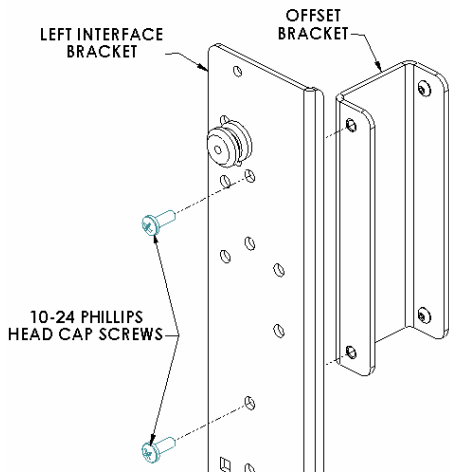
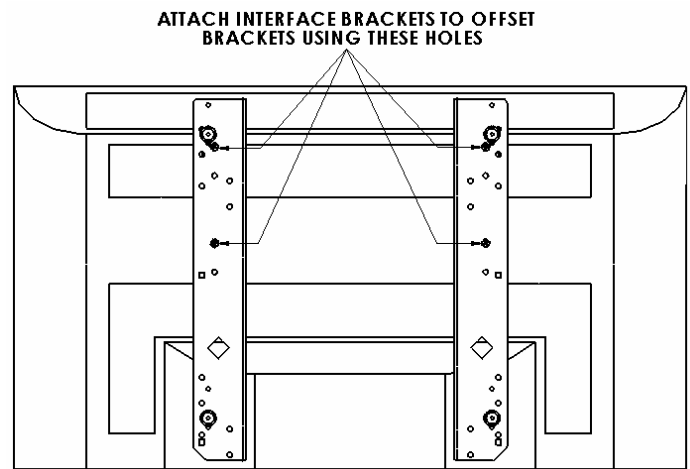

Figure 6
Figure 7
- Using 10-24 Phillips head cap screws, secure brackets (See Figure 6 & Figure 7). Do not over tighten screws.